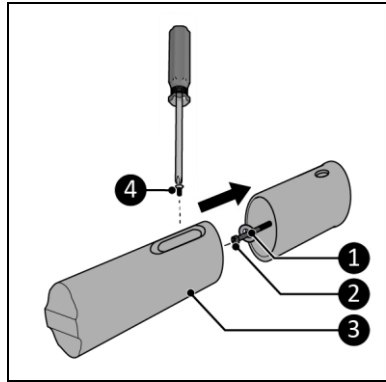

Figure 9
7. Screw the four outer wall brackets with self-tapping screws (Figure 9, pos. 2) and spacer rings (Figure 9, pos. 1) in to the four plugs.
9. Attach the four inner wall brackets (Figure 9, pos. 3) to the outer wall brackets with small screws (Figure 9, pos. 4) using a Phillips screwdriver.